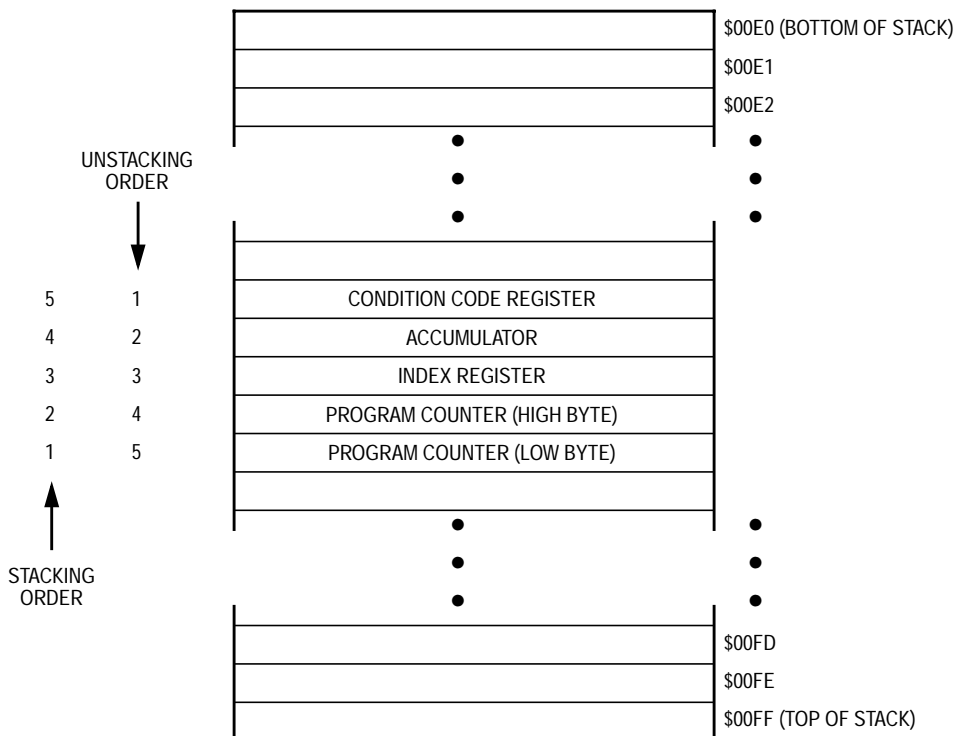

Figure 4-3. Interrupt Stacking Order
- Stores the CPU registers on the stack in the order shown in **Figure 4-3**
The return-from-interrupt (RTI) instruction causes the CPU to recover the CPU registers from the stack as shown in **Figure 4-3**.